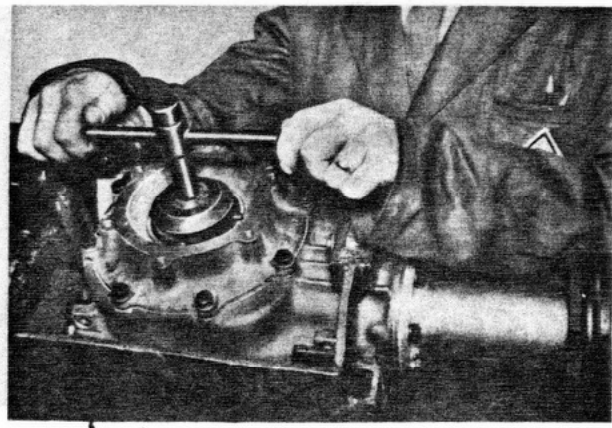

Fig. 21
9. Tighten up adjusting nut with plenty of side play using WK 139, loosen again and screw in lightly by hand until there is about .040" (1 m/m) side play (Fig. 21).